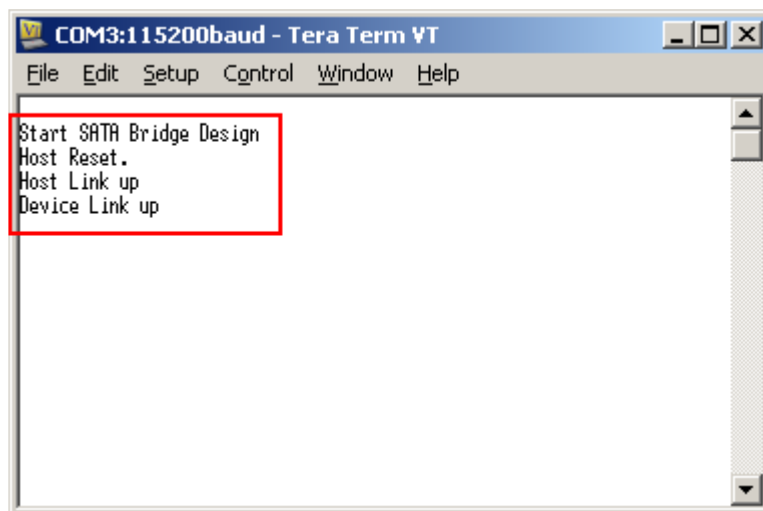

Figure 2-2 Boot message of bridge demo
- At serial console on PC, Boot message to show SATA status for both SATA sides will be displayed as shown in Figure 2-2. Now user can access the SATA device through Bridge design like typical disk.